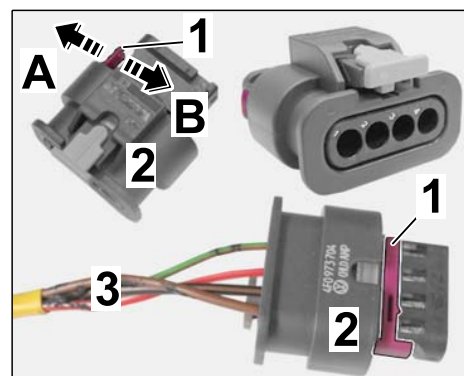

Figure 38
3.4.1 Release the socket housing (4-pin, see parts list) (⇒ *Figure 38-A*).
3.4.3 Lock the socket housing (4-pin, see parts list) (⇒ *Figure 38-B*).